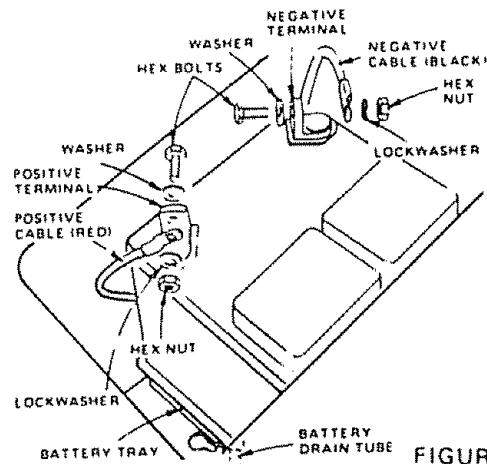

FIGURE 18
- Connect each end of the RED cable to the POSITIVE (+) terminals of each battery (taking care not to short against chassis). (Fig. 18)